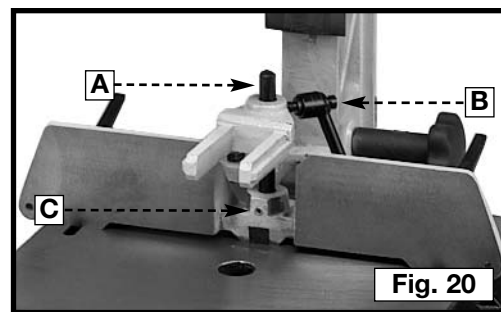

Fig. 20
- Loosen the holddown knob (B) Fig. 20 and remove the hold-down. Loosen the set screw (C) and removed holddown rod (A) and replace with the extended hold-down rod. Tighten the set screw (C). Place the hold-down (B) on the hold-down rod and tighten the hold-down handle (B).